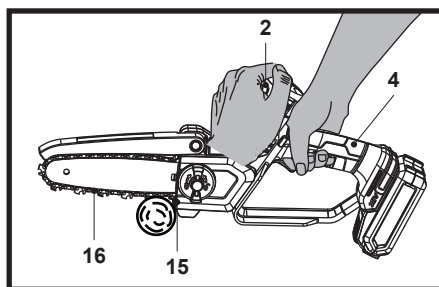

**Fig. 13**
3. Assemble the fully charged battery pack (19) on the battery docking port (7).
5. Use an oiler to oil the saw chain (16) and the drive sprocket (11) before each use or every 15 cuts.
6. Grip the product securely on grip handles (2, 4) with both hands and switch the product on. Wait for the saw chain (16) to run at full speed before coming into contact with the wood. Use base plate (15) to secure the product onto the wood before starting to cut and use it as a leverage point while cutting (Fig. 13).